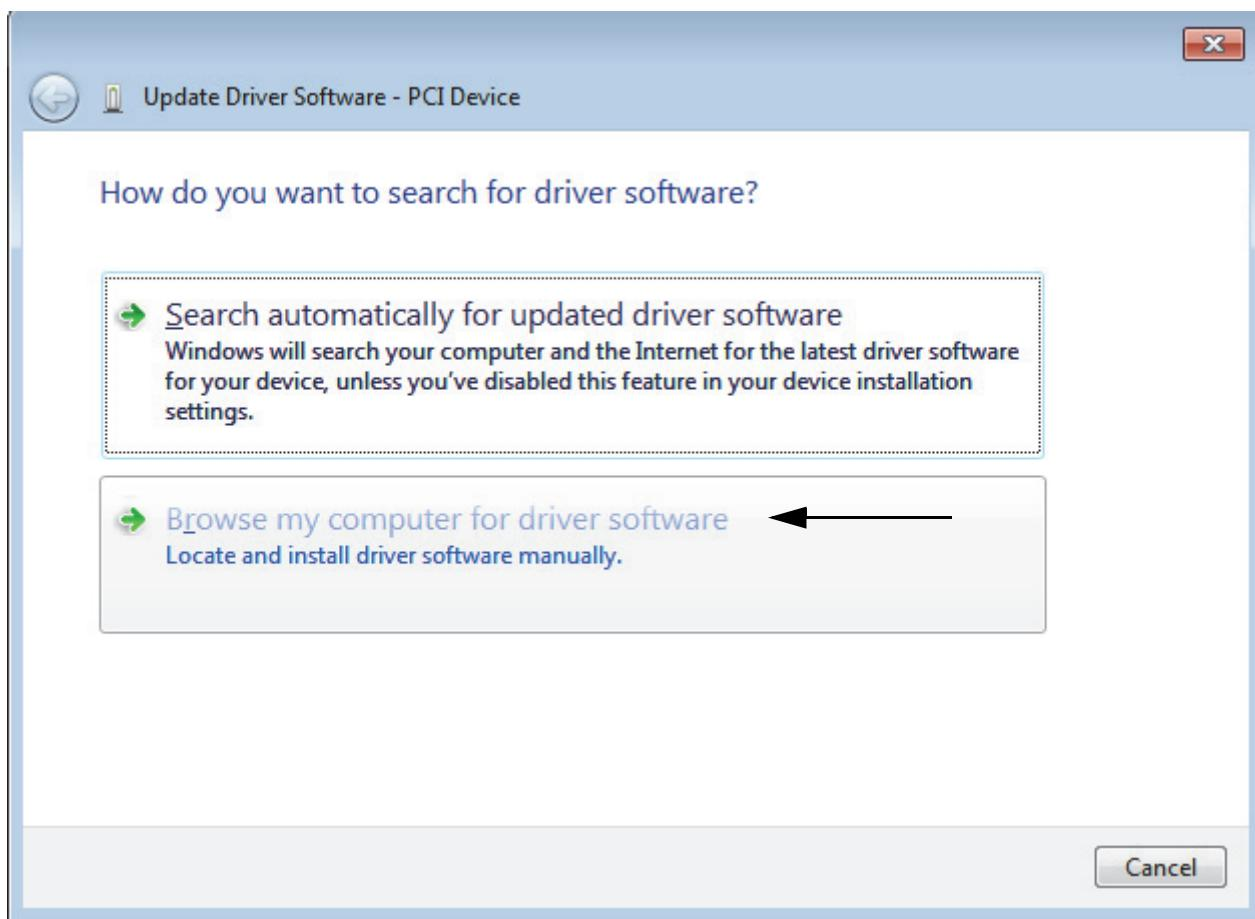

Figure 5-20. Browse My Computer for Driver Software Window
5. Select **Browse my computer for driver software** as shown in Figure 5-20.